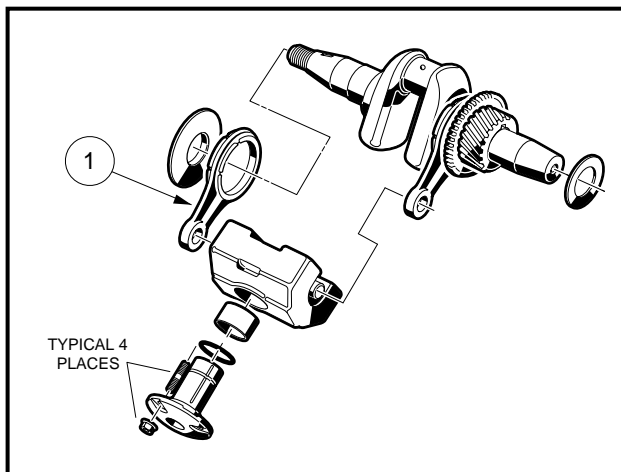

Figure 13-77 Inspect Link Rod
1. Clean and inspect the link rod (1) bearing surfaces. If the bearing surface of the small end is scored or damaged, replace the link rod. If the large end bearing is scored or damaged, the link rod must be replaced (**Figure 13-77, Page 13-37**).
NOTE: Do not remove the link rod on the PTO (power take-off) side unless link rod on the opposite end needs replacement. The crank-gear is very tightly fitted to the crankshaft so that it can transfer engine torque to the camshaft (which also functions as a PTO shaft) (**Figure 13-77, Page 13-37**). Ignore Crankshaft and Counterbalance Disassembly (steps 2 through 6, page 13-36), if the link rod opposite of the PTO side passes inspection (**Figure 13-77, Page 13-37**).